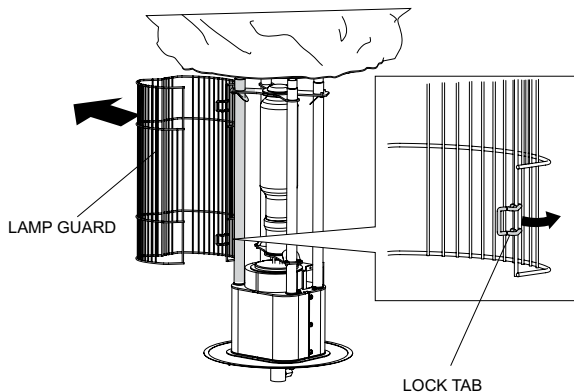

Figure 27. Removing Lamp Guard
2. Release the lamp guard locking tabs. See Figure 27.